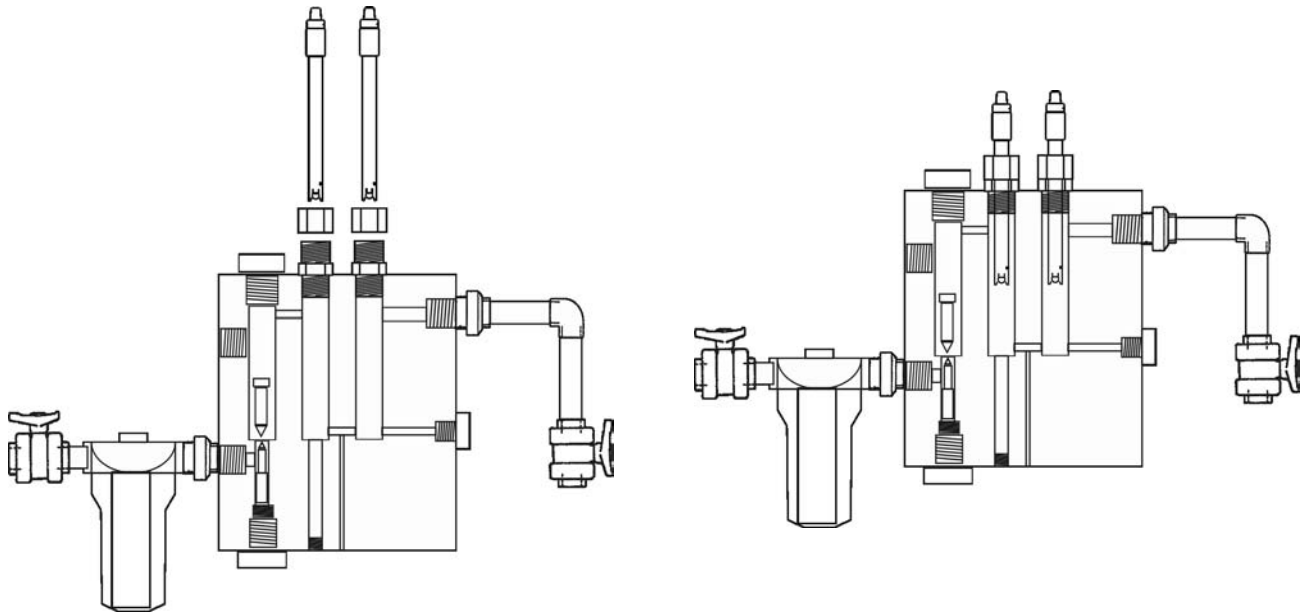
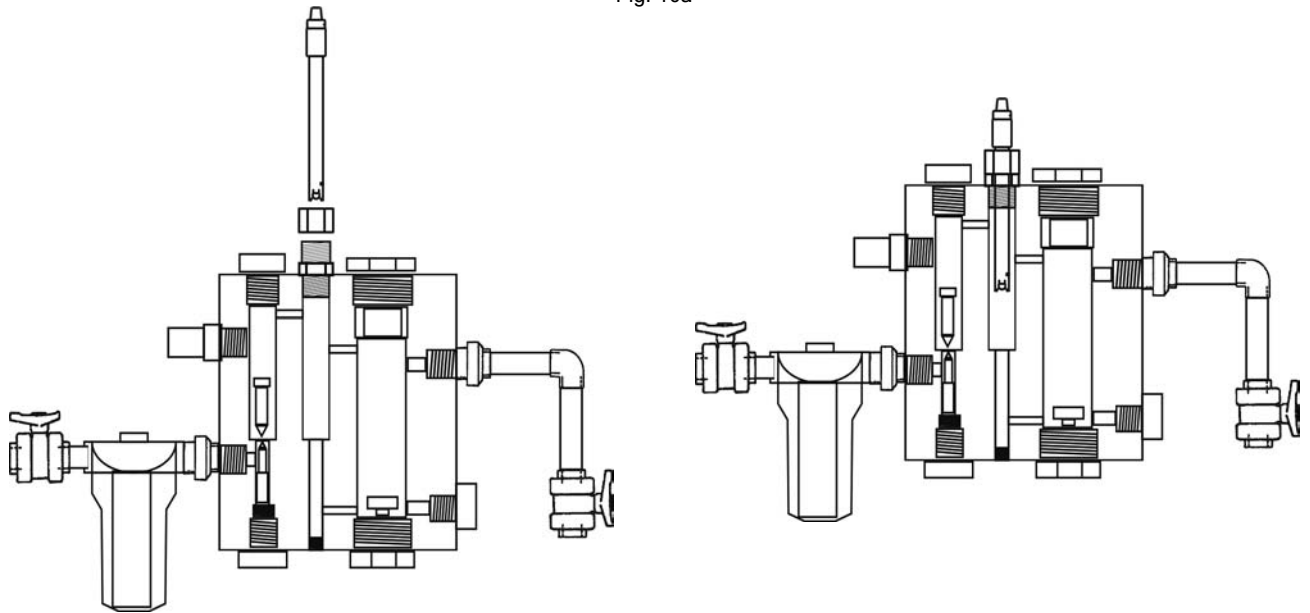

Fig. 10a
Fig. 10b
1. Insert the pH/ORP sensors into their corresponding places of the holder. EXT-1E (Fig. 10a) / EXT-2 (Fig. 10b).